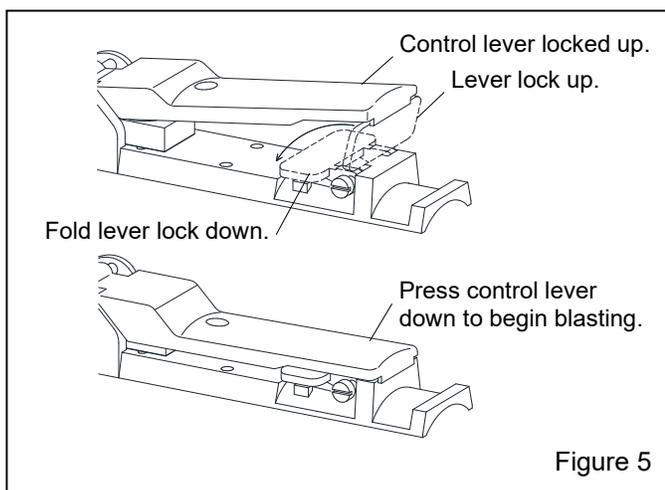

Figure 5
3.4.5 Fold down the safety lever lock and press the control lever, as shown in Figure 5. Within seconds, the remote controls will respond, and blasting begins.